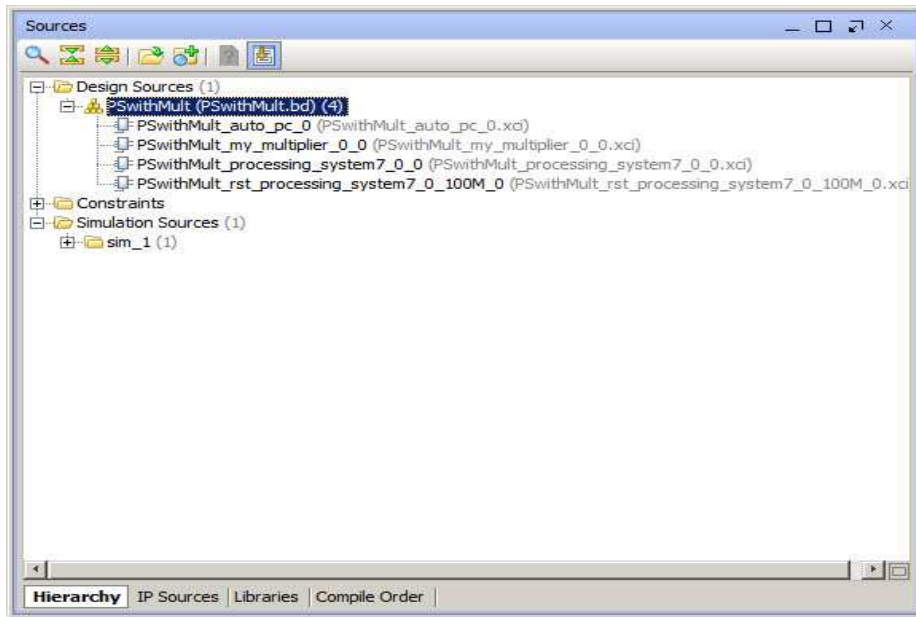

Figure 33: Sources Window
1. In the Source window, **right-click** the top-level subsystem design and **select** “Generate Output Products” (**Figure 33**). This generates the source files for the IP used in the block diagram and the relevant constraints file.